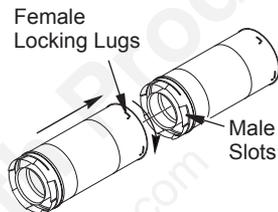
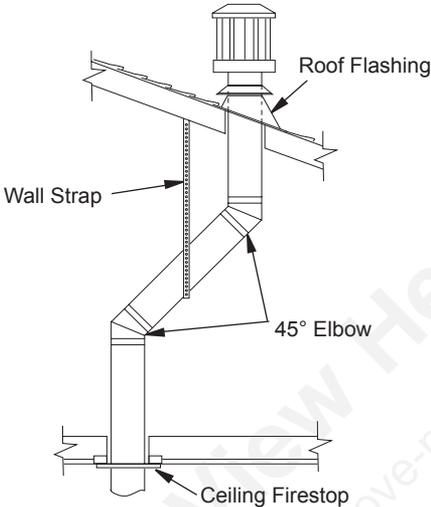

Figure 8 - Vent Pipe Connections
Figure 15 - Offset with Wall Strap and 45° Elbows
Twist-Lock Procedure: Female ends of pipes have locking lugs (indentations). These lugs will slide straight into matching slots on male ends of adjacent pipes. Push pipe sections together and twist one section clockwise approximately one-quarter turn until sections are fully locked (see Figure 8).
1. Determine route your vertical venting will take. If ceiling joists, roof rafters or other framing will obstruct venting system, consider an offset (see Figure 15, page 14) to avoid cutting load bearing members. Note: Pay special attention to these installation instructions for required clearances (air space) to combustibles when passing through ceilings, walls, roofs, enclosures, attic rafters, etc. Do not pack air spaces with insulation. Also note maximum vertical rise of venting system and any maximum horizontal offset limitations.
- Cut a 11 1/2" square hole in ceiling using locating hole as a center point. Opening should be framed to 11 1/2" x 11 1/2" inside dimensions, as shown in Figure 8 on page 9 using framing lumber the same size as ceiling joists. If area above ceiling is an insulated ceiling or an attic, nail firestop from top side. This prevents loose insulation from falling into required clearance space. If area above ceiling is a living space, install firestop below framed hole. Firestop should be installed with no less than three nails per side (see Figure 15).
- Assemble desired lengths of pipe and elbows necessary to reach from fireplace flue up through firestop. Be sure all pipe and elbow connections are fully twist-locked (see Figure 8, page 11).
Note: If an offset is needed to avoid obstructions, you must support vent pipe every 3 feet. Use wall straps for this purpose (see Figure 15). Whenever possible, use 45° elbows instead of 90° elbows. The 45° elbow offers less restriction to the flow of flue gases.
- Place flashing over pipe section(s) extending through roof. Secure base of flashing to roof and framing with roofing nails. Be sure roofing material overlaps top edge of flashing as shown in Figure 15. There must be a 1" clearance from vent pipe to combustible materials.